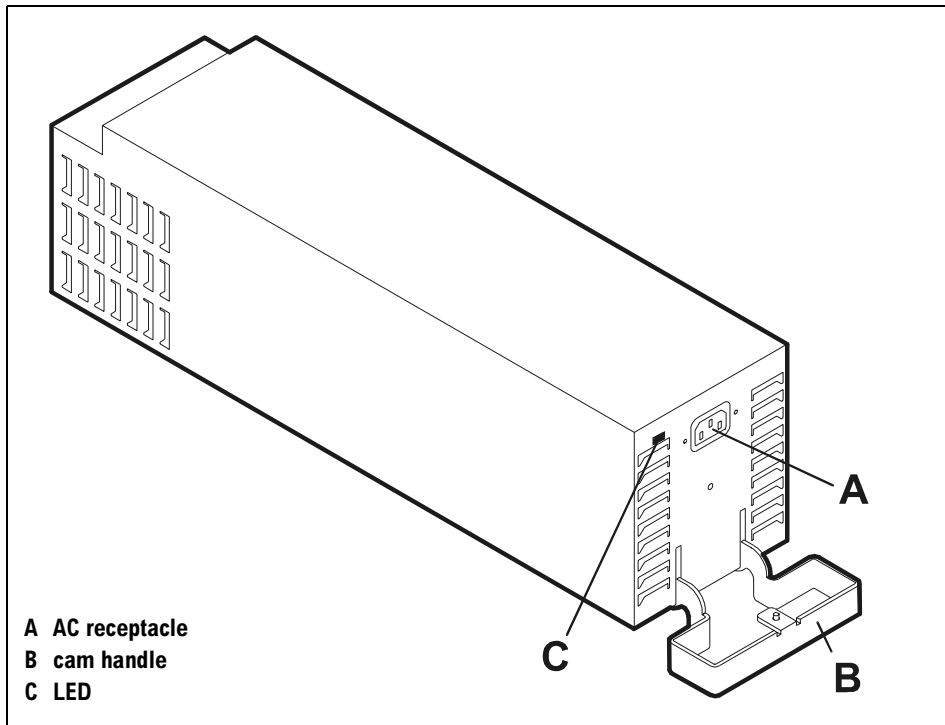

Figure 6 Power Supply
A hot-pluggable 450-watt power supply converts wide-ranging AC voltage from an external main to stable DC output and delivers it to the backplane. The power supply has two internal blowers, an AC receptacle (A in Figure 6), a cam handle (B) with locking screw, and an LED (C). Internal control prevents the rear DC connector from becoming energized when the power supply is removed from the disk system.